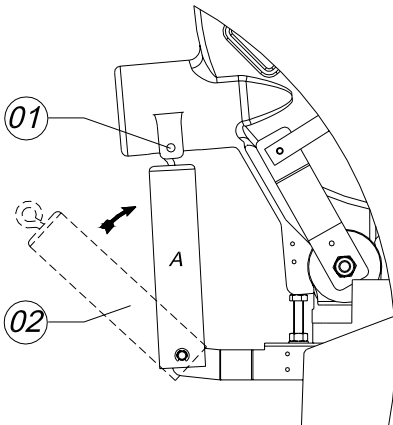

Figure 04
To mount the spring, remove the bolt fig. 04 (01) using allen key 6mm that comes with the machine. Lift the top as far as possible, using the handle, place the spring in the direction of the arrow, until you are able to replace bolt in its original hole.